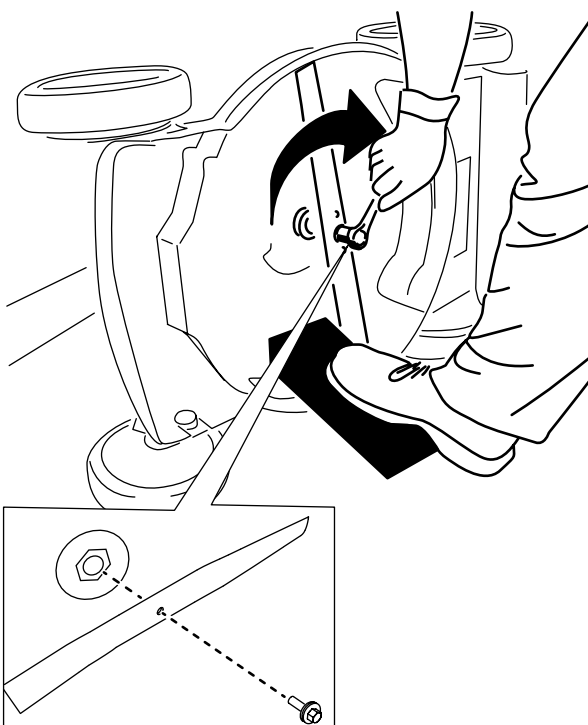

Figure 16
2. Use a block of wood to hold the blade steady (Figure 16).